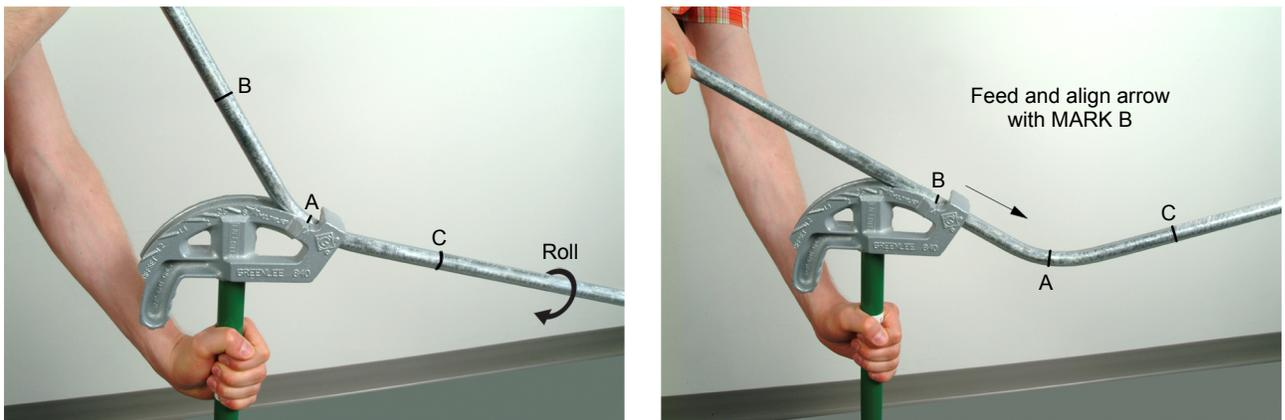

Figure 44. Line up Mark B with the arrow.
- Roll the conduit 180° and feed it in the bender shoe until Mark B is lined up with the ARROW as shown in Figure 44.